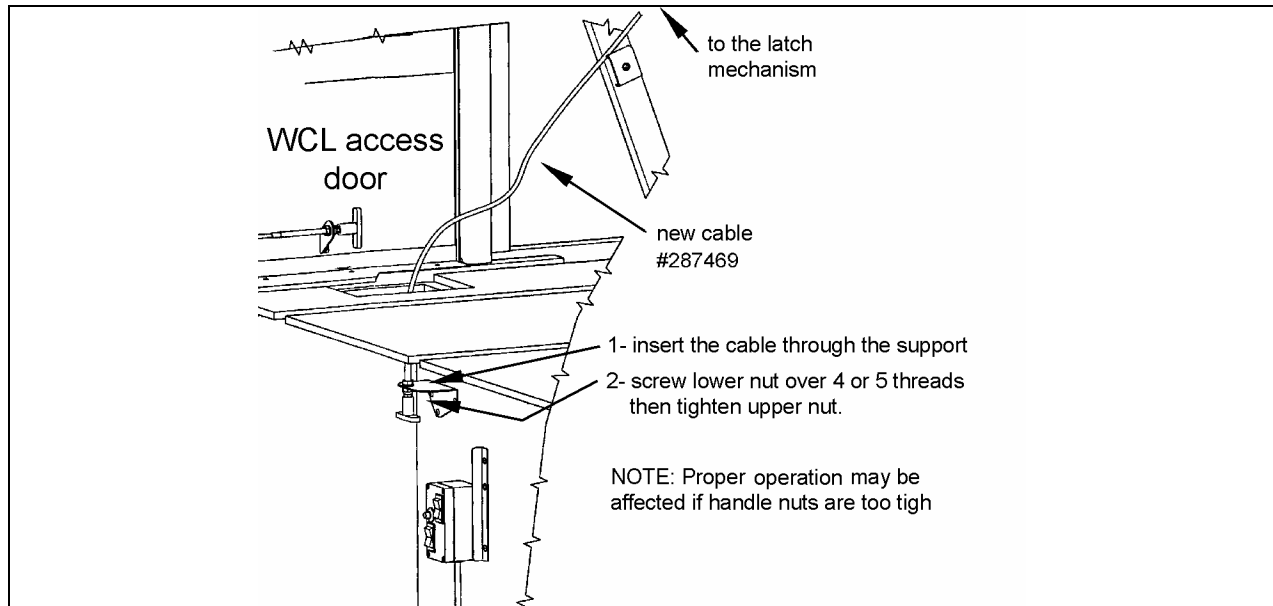

FIGURE 2: CABLE ROUTING
4. Route the new cable #287469 from the baggage compartment up to the latch mechanism (see figures 2 and 3). Secure control cable to handle then tighten nuts as indicated in figure 2.
Note: Proper operation may be affected if mechanism nut or handle nuts are too tight (see figures 2 and 4).